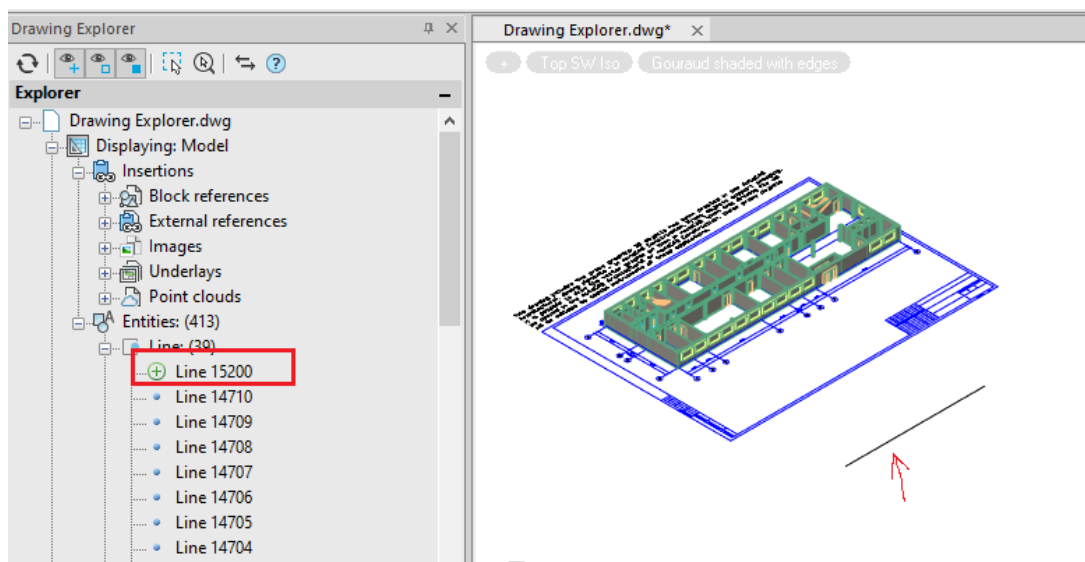

Fig. 55. New line
4. Open the Displaying – Entities – Line section, then draw the line anywhere in the drawing file. A new line will appear in the Drawing Explorer (fig. 55):